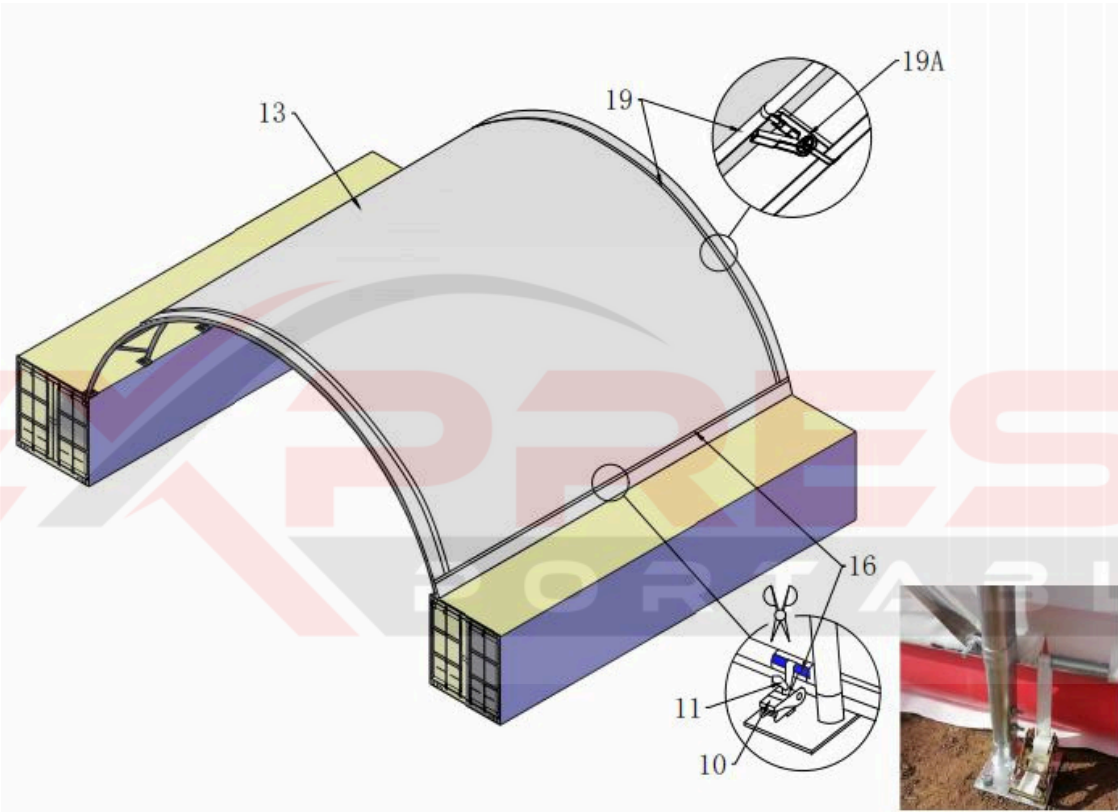

Figure 8
5. Cutting pockets over each ratchet on the base plates and using the Nylon Band (No.11) to tie down the Lower Tensioning Tubes (No. 16) as Figure 8 shown. Finally install the Plastic Plug (No. 15) into two end of the Lower Tensioning Tube.